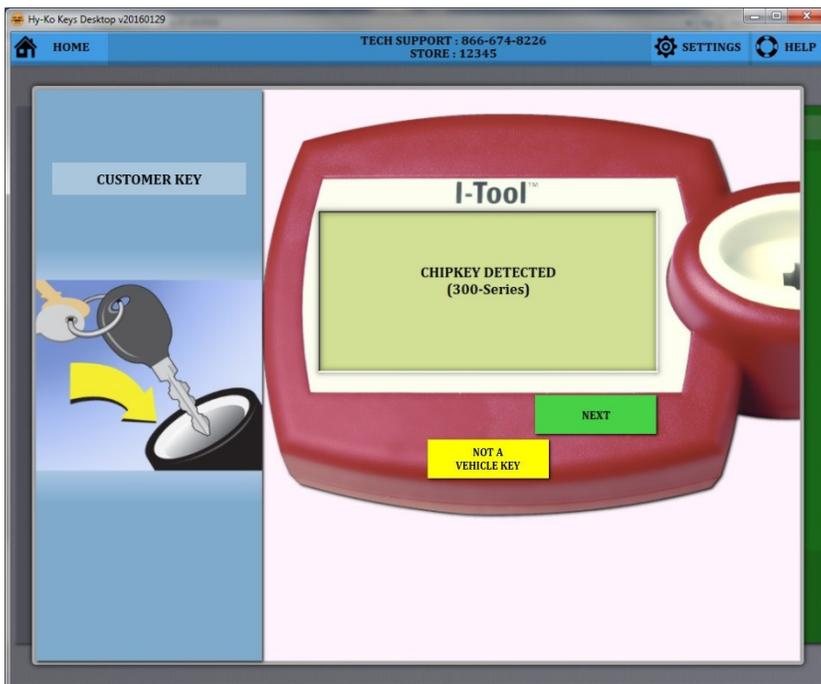

fig. 100
- When I-Tool has completed reading the customer's key, the type of chipkey is displayed on the picture of the I-Tool on the software (see fig. 100).